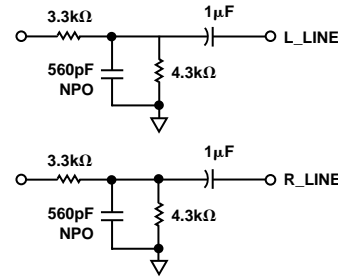
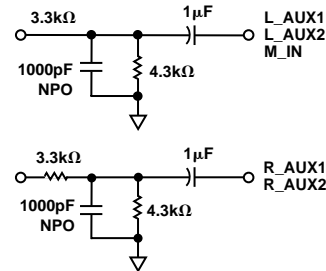

Figure 27. 2 V rms Line-Level Input Circuit for LINE Inputs
Figure 28. 2 V rms Line-Level Input Circuit for M_IN and AUX Inputs
The AD1845 Stereo Codec has been designed to require a minimum of external circuitry. The recommended circuits are shown in Figures 27 through 35.
A circuit for 2 V rms mono, line-level inputs and auxiliaries is shown in Figure 27 and Figure 28. Note that this is a divide-by-two resistive dividers considering the codec input impedance. The input resistor and 560 pF (1000 pF) capacitor provides the single-pole of antialias filtering required for the ADCs. If line-level inputs are already at the 1 V rms levels expected by the AD1845, the resistors in parallel with the 560 pF (1000 pF) capacitors can be omitted. If the application does not route the AUX2 inputs to the ADCs, then no antialias filtering is required (only the 1 μF ac coupling capacitor).
2. The AD1845 requires the input antialiasing filters for the ADCs (refer to Figures 27 and 28). The CS4231 can use the same filters with no degradation in performance. For compatibility it is suggested that the filters be added.